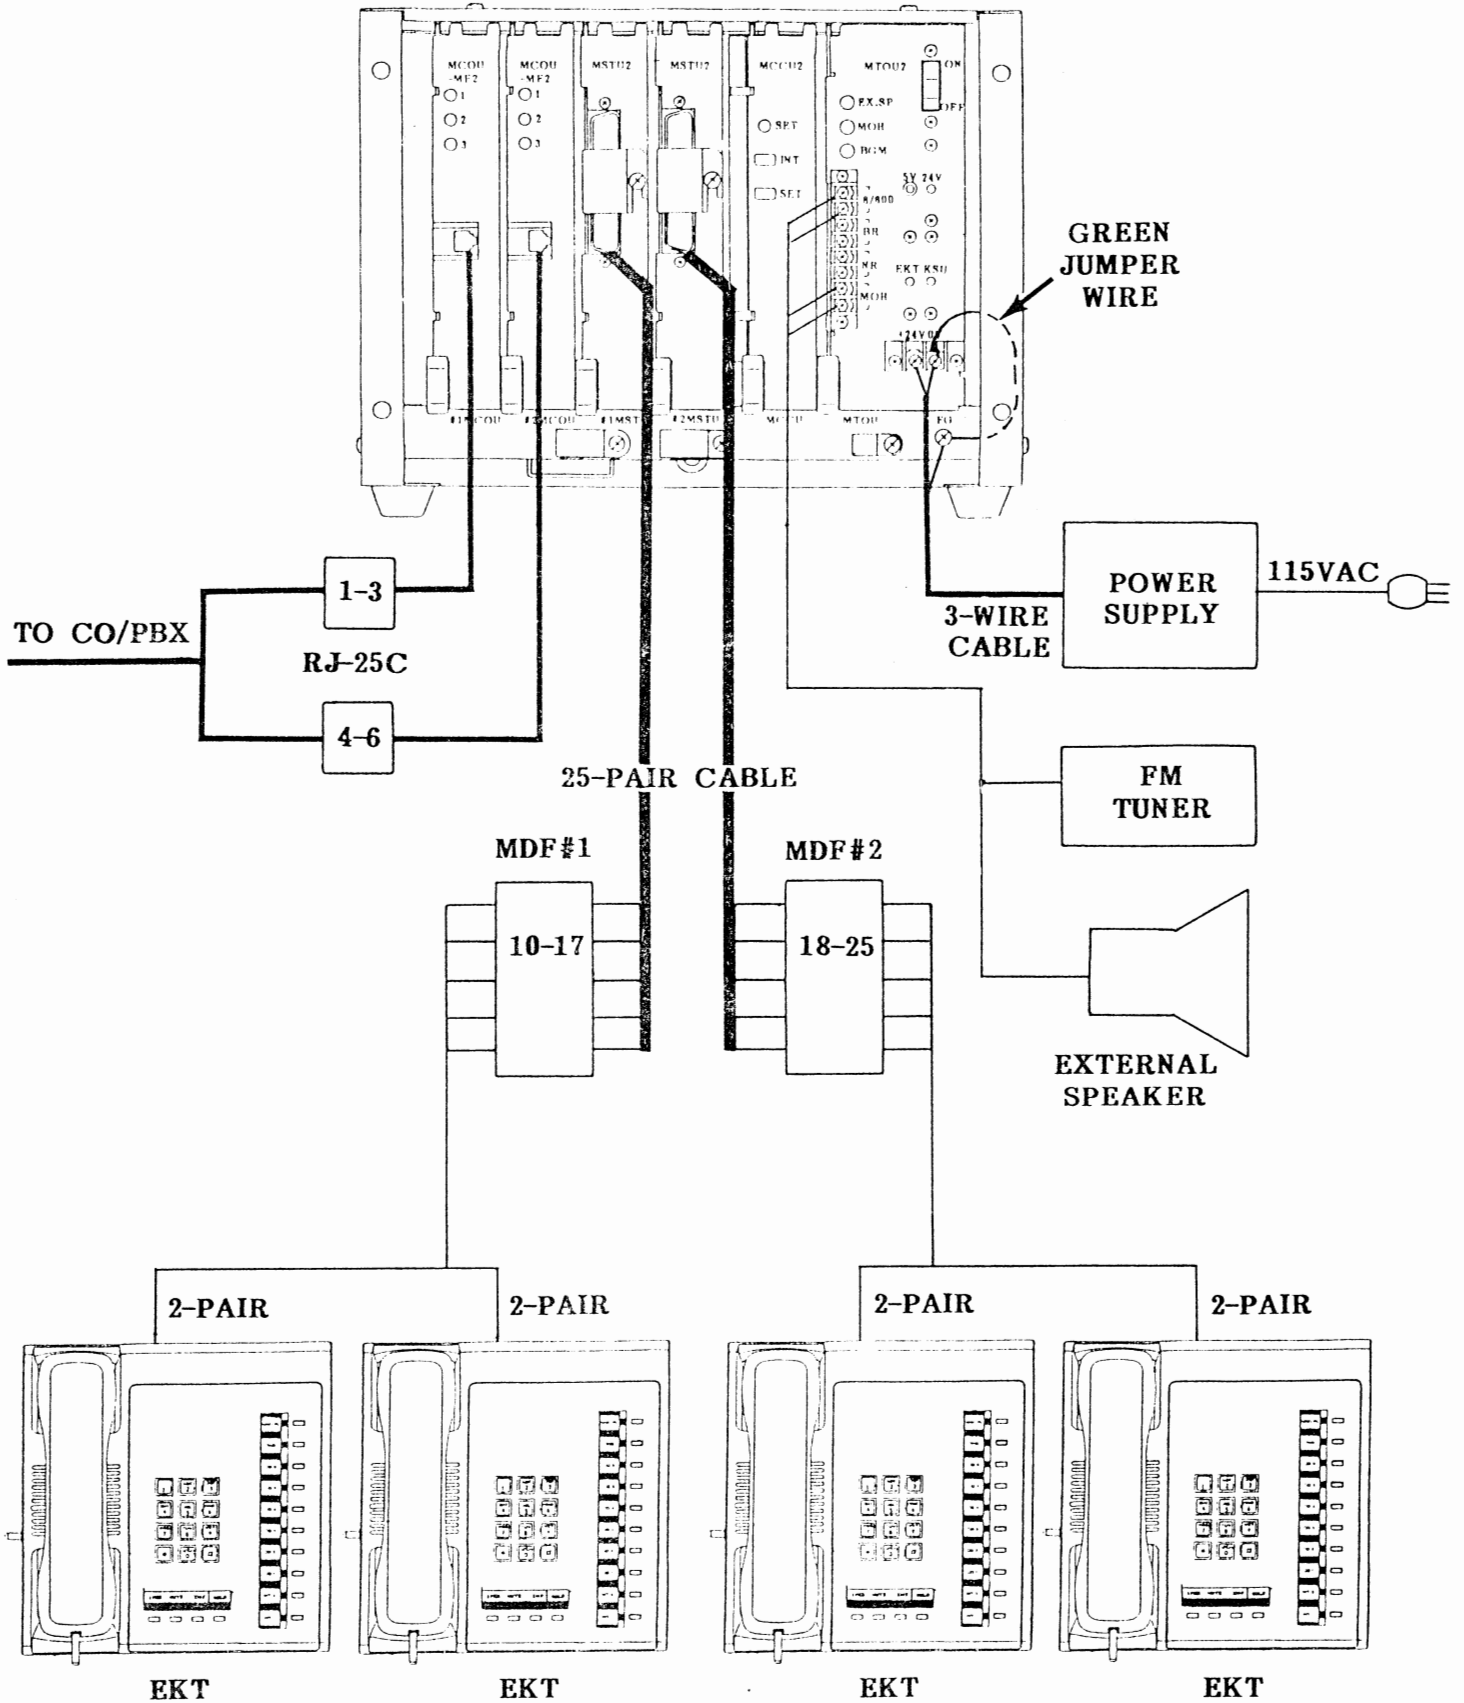

FIGURE 11
07.02 Two 66MI-50 split connection blocks (Figure 11) are recommended as the fully-equipped STRATA VI main distribution frame (MDF).